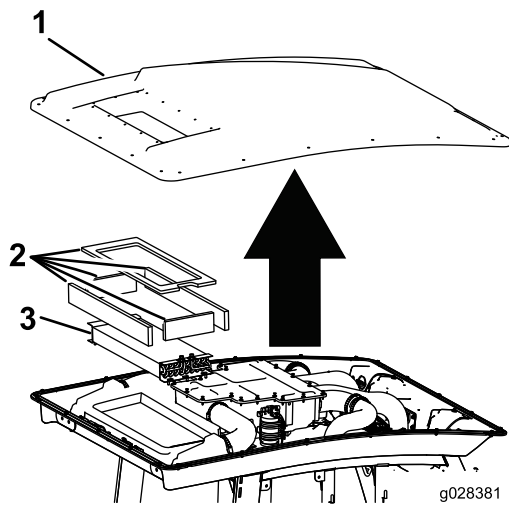

Figure 115
3. Remove the cabin roof of the cab by removing the 22 bolts that secure the roof (Figure 115).
- 4. Remove the air filters (Figure 115).
- 5. Remove and clean the air conditioning coils (Figure 115).